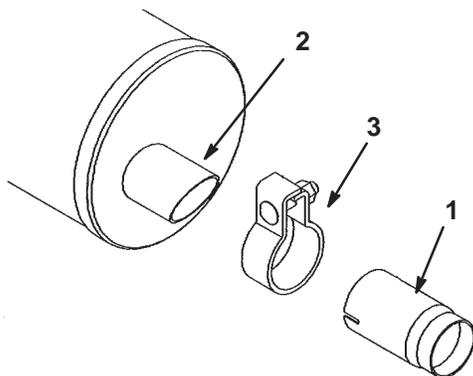

Figure 1
3. Slide the slotted end of the spark arrester over the exhaust outlet on the muffler as far as possible by hand (Fig. 1).
4. Slide the clamp over the arrester until it is flush with the slotted end of the arrester so that the clamp covers the slots in the arrester (Fig. 1).